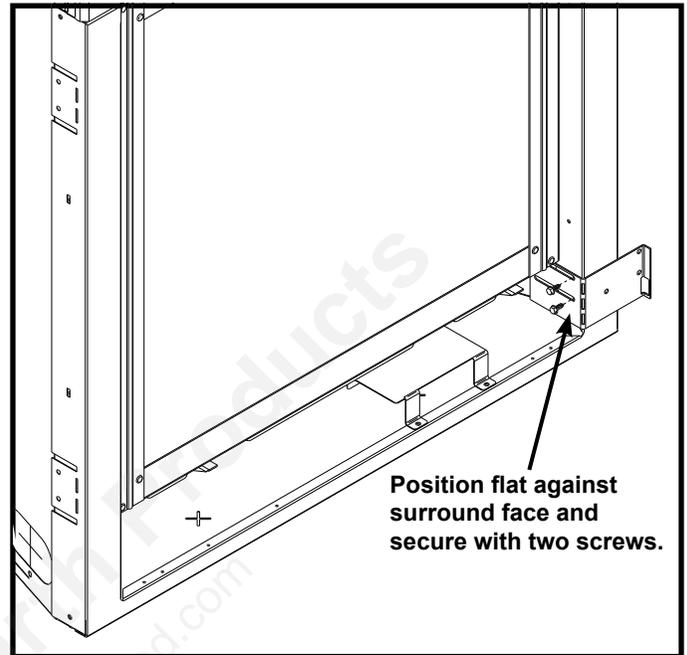

Figure 14.12
3. Position and secure the switch assembly to the lower right side of the surround as shown below. It should be placed directly against the surround face or finishing materials. See Figure 14.12.